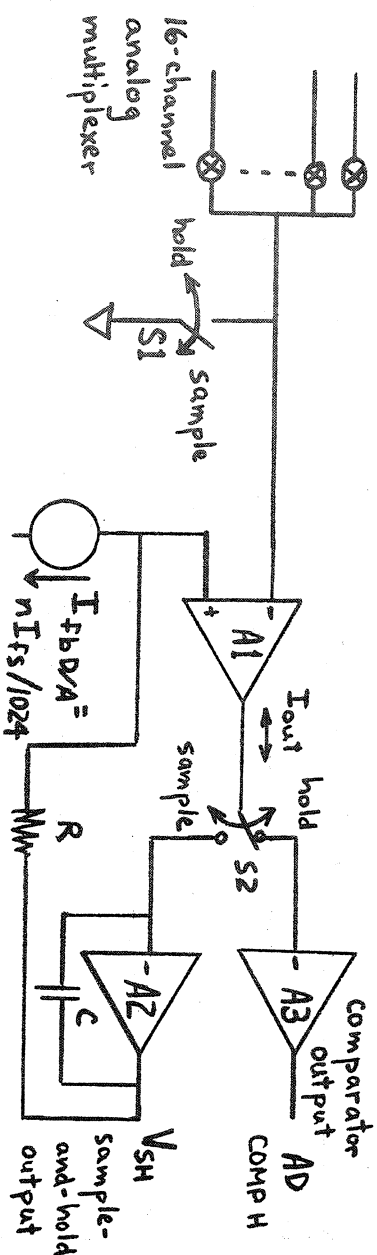

FIGURE 7: A/D Analog Block Diagram
The AR11 uses a unique auto-zeroing A/D configuration, in which the same amplifier front end is shared between the sample-and-hold and A/D comparator is such a manner as to cancel out its own offset and drift.* This configuration is shown in figure 7.
Now assume identical conditions in "sample" mode except that instead of $I_{FBD/A} = 0$ we turn on the most significant bit (MSB) so that $I_{FBD/A} = I_{FS}/2$. Under these conditions, V_{SH} tracks the selected input voltage with an offset of $RI_{FS}/2 = V_{FS}/2$. If $V_{FS} = 5$ Volts, $V_{SH} = V_{in} + 2.5$, so that an input range to -2.5 to $+2.5$ corresponds to $V_{SH} = 0$ to $+5$ Volts. By turning on the MSB during "sample" we have transformed the unipolar input range into a bipolar input range, with the MSB of the feedback D/A acting as its own bipolar offset reference source. The unipolar/bi-polar bit of the A/D Status Register controls the input range by controlling the state of the MSB during "sample". 8.3 ADCS (A/D Channel Select) Page 11 of the M7809 schematic, ADCS (A/D Channel Select) contains the 16-channel analog multiplexer and switch S1 shown in figure 7 above. Each of the 16 analog input channels comes in through a 1K fusible resistor, which works in conjunction with the diodes of E5 and E11 to protect the AR11 analog multiplexers from input overvoltage conditions. The 16-channel multiplexer consists of two eight-channel PMOS multiplexer IC's E6 and E12. Each of these has three address lines A0:A2 which select one of eight switches, plus an enable line OE which enables the selected switch when high and turns off all switches when low.
Switch S1 of figure 7 is implemented by FET Q11. During "sample", ADC ENA A/D (1) L is high, so that E18-12 is low and Q10 is off; R73 pulls the gate of Q11 down to -14V HQ and Q11 is off. When it is time to do a conversion, ADC ENA A/D (1) L goes low, E18-12 goes high, and Q10 turns on, with an emitter current of 12 Volts/20K = .6 mA. This current comes out the Q10 collector and turns on D15, so that Q10-C clamps at +.7 Volts. The gate of Q11 is at ground because of the D45 diode drop, so that Q11 turns on, bringing ADCS MUX NODE to ground. This provides a zero reference for A1 (of figure 7) during the conversion. ADC ENA A/D (1) L also goes to E28-10, 12, causing E28-8, 11 to go high and E18-2, 4 to go low. Thus both ADCS AD MUX 0 ENA H and MUX 1 ENA H are low and both multiplexers (E6 and E12) are disabled during the conversion. This allows Q11 to ground ADCS MUX NODE without having to sink any current except the bias current of A1. During "sample", ADC ENA A/D (1) L is high, so that E28 pins 9 and 13 are enabled. This allows address bit ADC AD MUX 03 H to select which of the two multiplexers is enabled - E6 is enabled on MUX 0 ENA H when AD MUX 03 H is high, E12 is enabled on MUX 1 ENA H when AD MUX 03 H is low. The three low-order address bits ADC AD MUX 00:02 H are inverted by E18 to provide the address MUX A0:A2 L to the multiplexer IC's E6 and E12. Since E6 and E12 are PMOS chips, their
logic thresholds are referenced to the +14V HQ supply. Therefore MUX AØ:A2 L, AD MUX Ø ENA H, and AD MUX 1 ENA H are all 14V logic swings, implemented by open collector inverters in E18 and 20K pullup resistors to +14V HQ. 8.4 AD (Converter and Sample-and-Hold) Page 12 of the M78Ø9 schematic (AD) contains the feedback D/A converter and the following circuits from figure 7: operational transconductance amplifier A1, sample-and-hold output amplifier A2, comparator output stage A3, and switch S2. The feedback resistor R of figure 7 is actually made up of R109 and R111. The feedback D/A converter is made up of an integrated circuit 8-bit current output D/A E22 and two higher-order discrete component bits, which function in the same manner as described in the D/A converter section. The two higher-order current sources are both nominally equal to 4 Volts/1.25K = 3.2 mA. The MSB (bit 9) current source "sees" the total resistance R109 + R111, approximately 800 ohms, so that its value is 2.5 Volts, or one-half of full-scale. The bit 8 current source "sees" only R111, approximately 400 ohms, so that its value is 1.25 Volts, or one-quarter of full-scale. During "sample", ADC ENA AD (1) L is high, so that ADC UNITAR H on E17-9 controls the level of E17-10. Since the SAR (E26) was reset at the end of EOCF on the previous conversion, ADC ADØ9 H is high, and E17-13 is high for unipolar and low for
Switch S2 of figure 7 is actually the current switching network consisting of Q41 through Q47. If ADC HOLD (1) L is high, the circuit is in the sample state. In this condition the bases of Q41 and Q43 are at +5 Volts. The bases of Q42 and Q44 are at +3 Volts, set up by I12-1.5 mA and the 2K pot R114. Since the Q44 base voltage is lower than the Q43 voltage, Q44 is on and I8 takes the right-hand path. Since the Q42 base voltage is lower